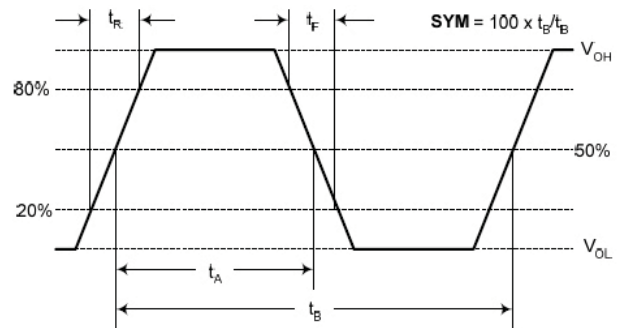

Figure 2. 10K LVPECL Waveform
4. Measured from 20% to 80% of a full output swing (Fig 2).